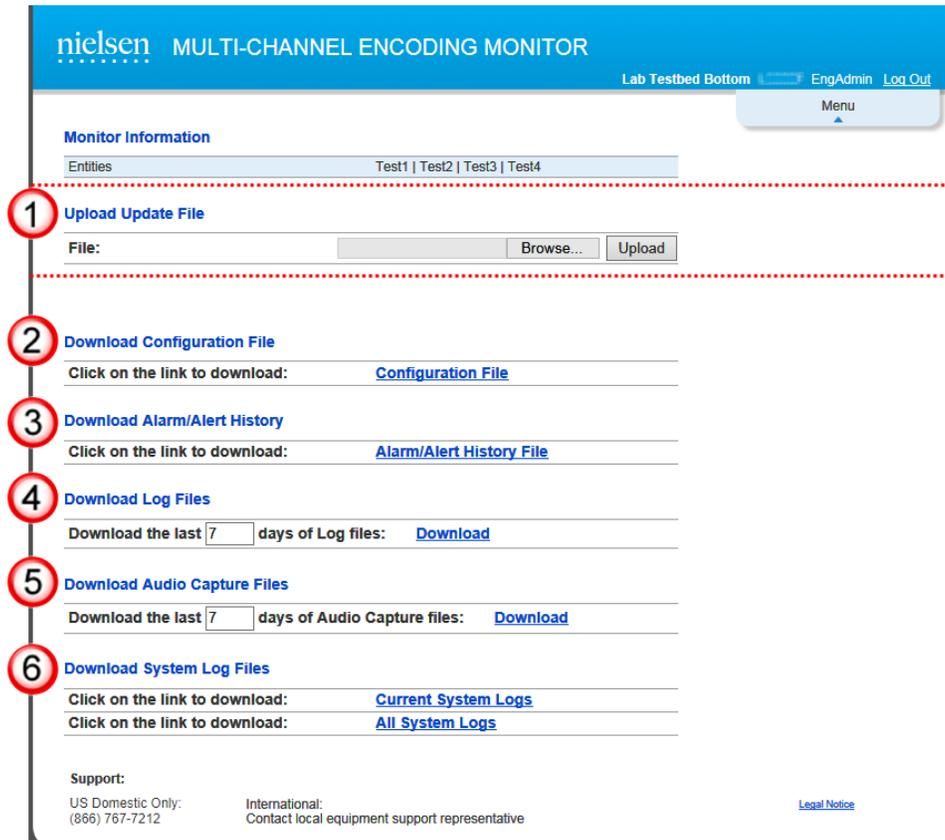

Figure 43: Upload/Download File Page
1. Click Choose File and browse to the Nielsen-supplied file on the PC (item 1 in Figure 43).
Click Configuration File (Item 2 in Figure 43). The current monitor configuration file downloads to the default downloads folder as set in the browser. The name for this “sam file” is formatted as follows:
Click Alarm/Alert History (Item 3 in Figure 43). The history, if it exists, downloads to the default downloads folder as set in the browser. If either of the following conditions exists, the software truncates the file by removing the oldest events.
1. Enter the number of days of log reports (Item 4 in Figure 43) that Nielsen has asked you to obtain.
1. Enter the number of days of audio capture files (Item 5 in Figure 43) that you want. Files for up to the previous 30 days (maximum 100 files) are available.
Click one of the following (Item 6 in Figure 43) and the file downloads to the default downloads folder as set in the browser: